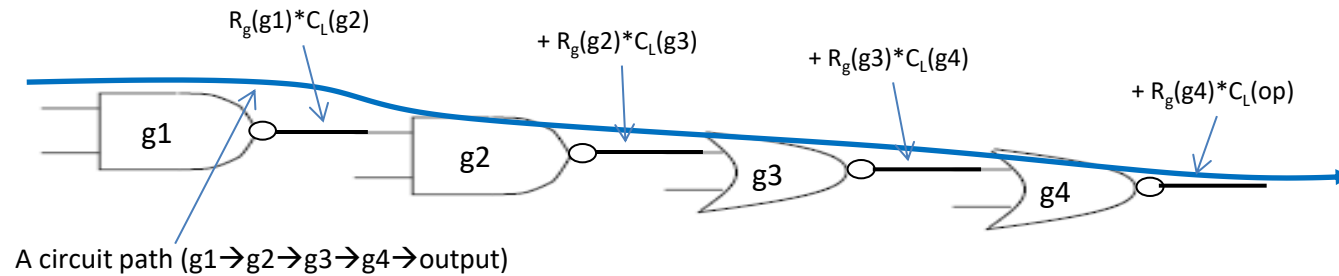

Fig. 2: A path of a circuit and its delay
- The *delay of a path* = Σ (output delays of gates on the path). The delay of the path shown in Fig. 2 = $[d(g1) + R_g(g1) \cdot C_L(g2)] + [d(g2) + R_g(g2) \cdot C_L(g3)] + [d(g3) + R_g(g3) \cdot C_L(g4)] + [d(g4) + R_g(g4) \cdot C_L(op)]$, where $C_L(op)$ is the load at the output of the path and $d(g_i)$ is the “intrinsic” delay of a gate g_i to switch from off to on.
- The *delay of a path* = Σ (output delays of gates on the path). The delay of the path shown in Fig. 2 = $[d(g1) + R_g(g1)*C_L(g2)] + [d(g2) + R_g(g2)*C_L(g3)] + [d(g3) + R_g(g3)*C_L(g4)] + [d(g4) + R_g(g4)*C_L(op)]$, where $C_L(op)$ is the load at the output of the path and $d(g_i)$ is the “intrinsic” delay of a gate g_i to switch from off to on.